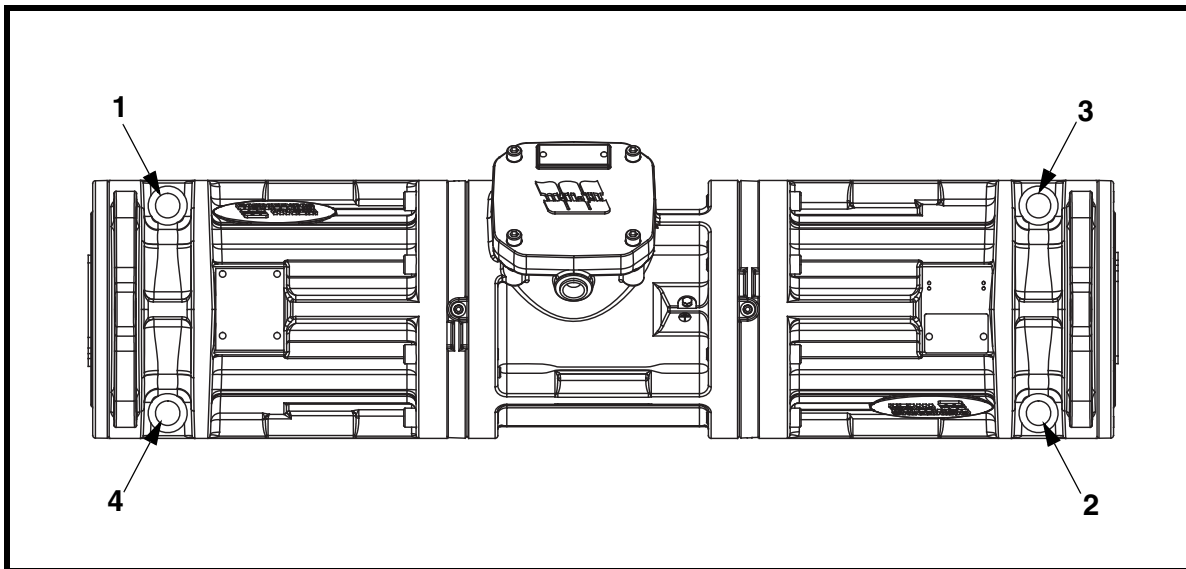

Figure 1. Mounting Bolt Tightening Sequence
Tighten mounting bolts in sequence shown in Figure 1. If not tightened in order, vibrator casting could be damaged.
1. Position screen vibrator mounting holes over mounting holes on screen frame. Use bolts to hold unit in place. Tighten bolts in order given in Figure 1 to avoid damaging vibrator casting.